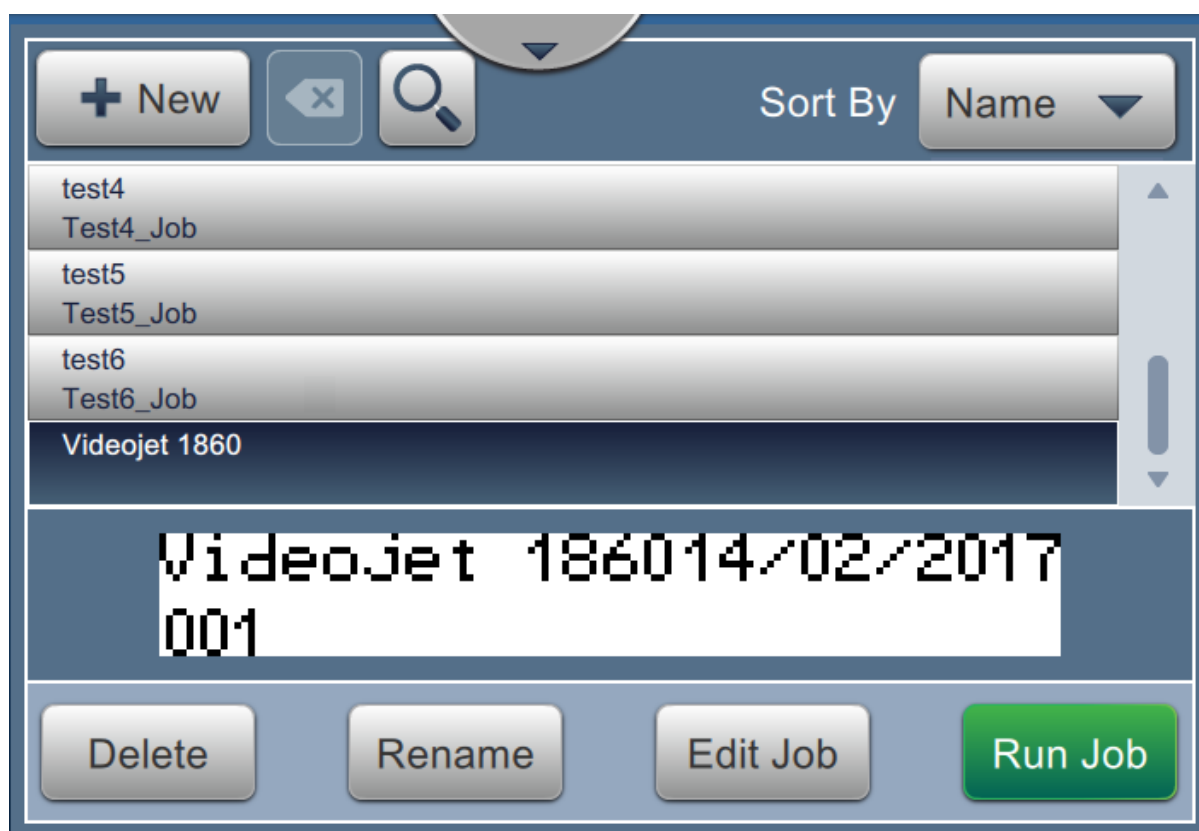

Figure 5-22: Job List
32. The job “Videojet 1860” is added to the job list as shown in Figure 5-22.